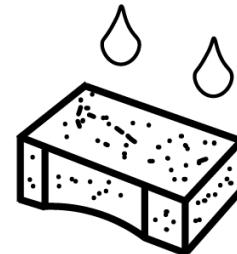

Figure 15
- Oil the filter carefully, Fig. 15.